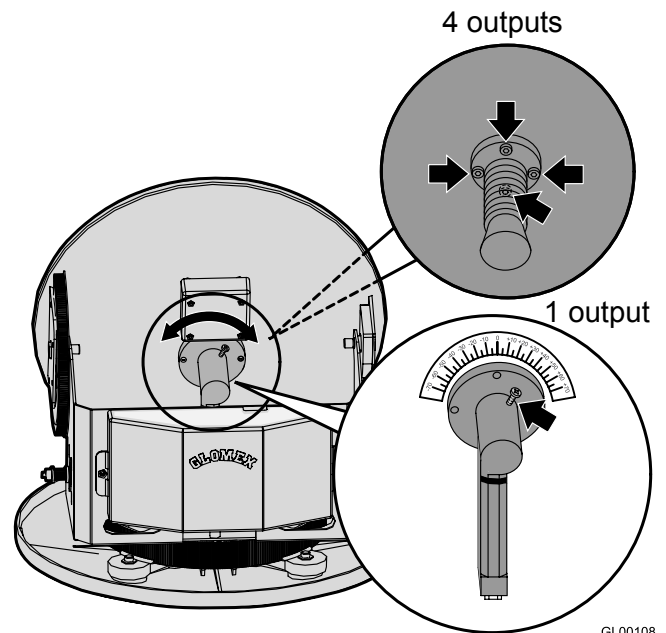

Fig. 26
- for one-output models, loosen the screw fastening the LNB to the dish (see **Fig. 26**) and manually move the dish, using the parameter of signal quality of the digital receiver in use as a reference for correct calibration (please refer to the receiver's manual). Calibration does not need to be changed any more if the boat remains in the same area and receives transmission from the same satellite.